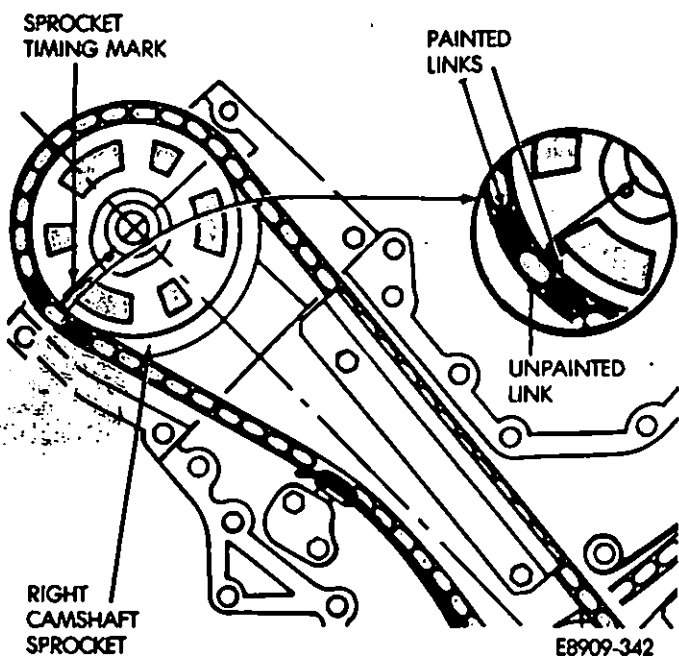

Fig. 20—Right Camshaft Sprocket to Timing Chain Alignment
(13) The right camshaft sprocket has a built-in spacer. Install the right timing chain so that the unpainted link between the two painted links is aligned with the stamped timing mark on the right camshaft sprocket (Fig. 20).